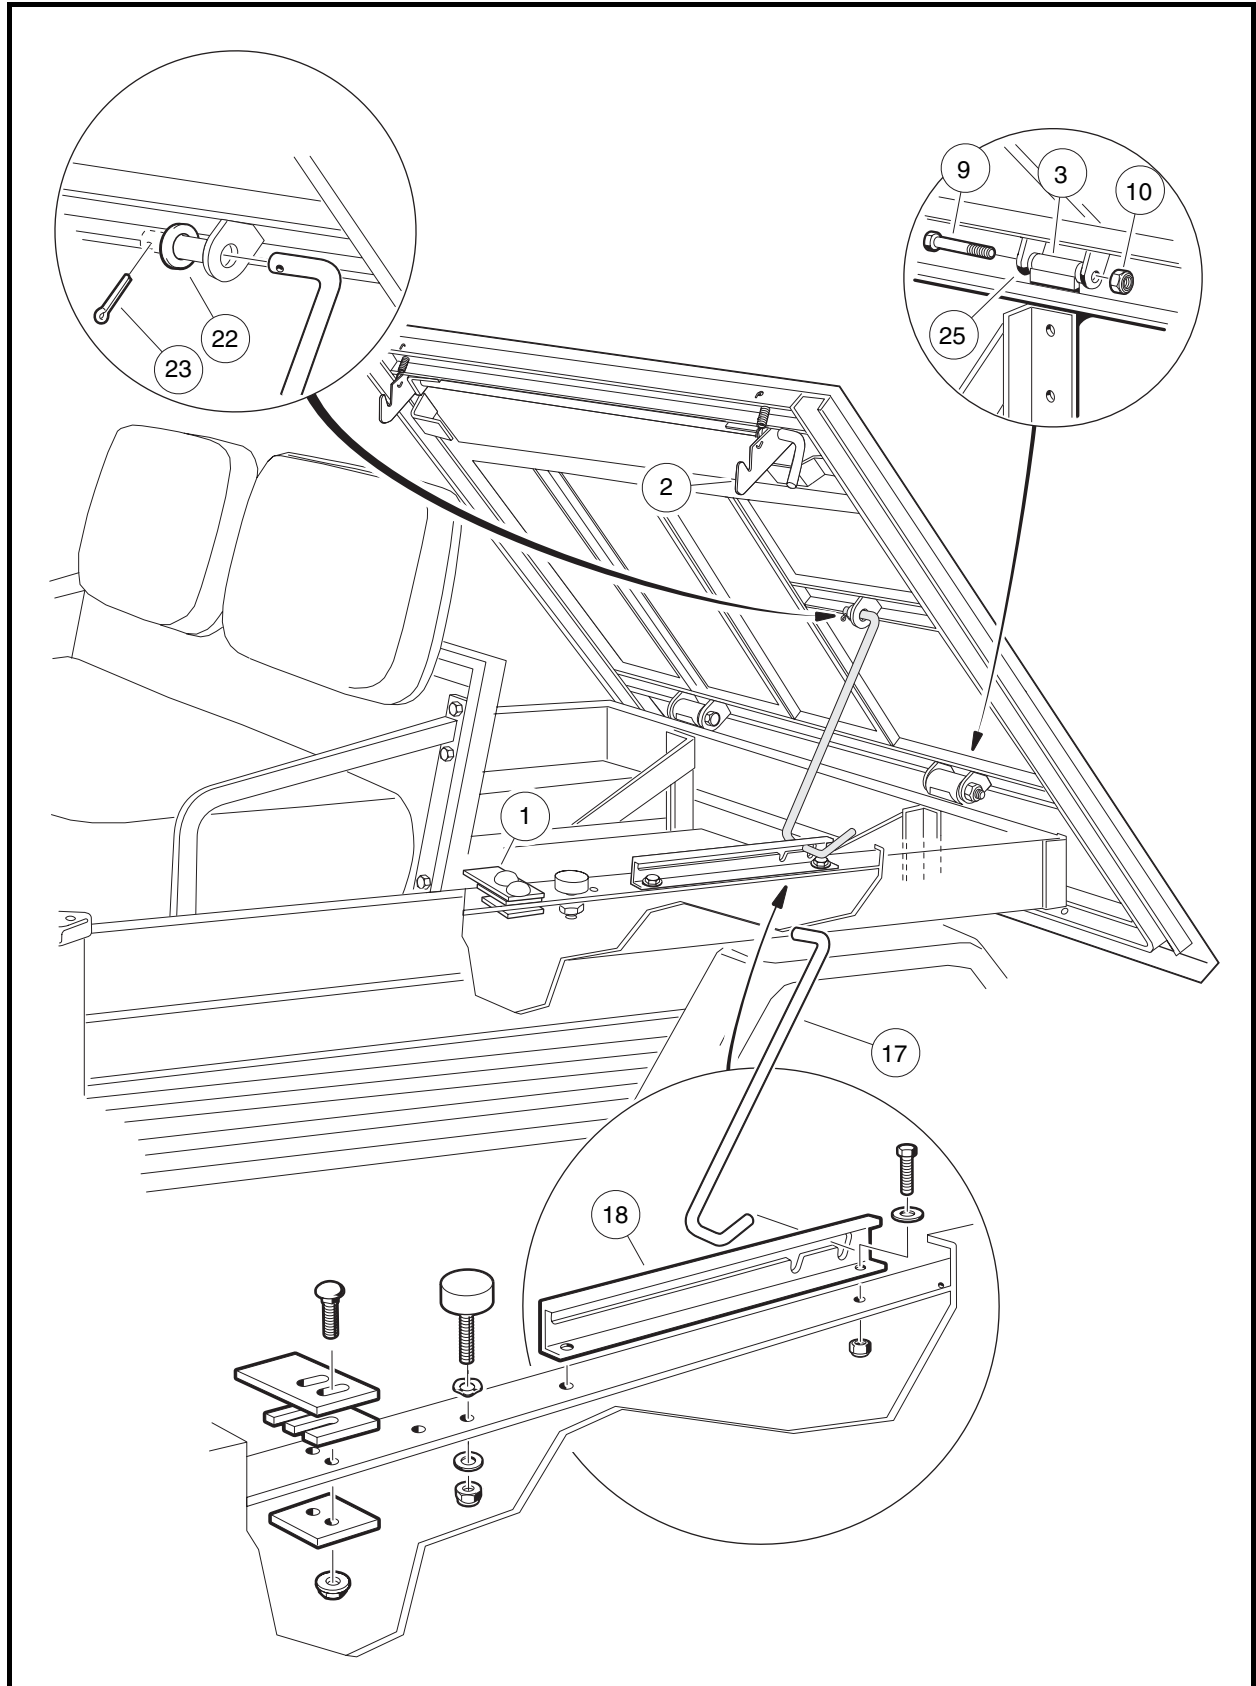

Figure 4-2 Tilt Bed – Turf 1, 2, Carryall 1, 2, and 2 Plus
1. **Turf 2, Carryall 2, and 2 Plus only:** Raise bed and secure prop rod (17) in prop rod track (18). Hold bed securely in an upright position. Remove cotter pin (23) and flat washer (22) from top end of prop rod where prop rod attaches to bed. Remove prop rod (17) from bed and place prop rod between prop rod track (18) and rear body panel. Lower bed onto vehicle frame (**Figure 4-2, Page 4-6**).
2. Remove two lock nuts (10) from left and right hinge assemblies (3 and 25).
3. Apply slight upward pressure (by hand) on the rear of the bed to relieve pressure on the hinges, and remove the hinge bolts (9) from the hinge assemblies.
4. Raise rear edge of bed approximately 6 inches (15.2 cm) and pull bed assembly toward rear of vehicle approximately 3 inches (7.6 cm) to release bed latch assembly (2) from latch plate (1).
1. Hold bed at a slight angle (front of bed lower than rear of bed) to vehicle and place front edge of bed onto vehicle frame. Bed latches (5) should engage with latch plates (1) (**Figure 4-2, Page 4-6**).
2. Lower edge of bed onto vehicle and align hinge brackets (3) with bed hinge (25).
3. Start the bolts (9) into left and right hinge assemblies (3 and 25). It may be necessary to use an alignment tool to align holes in hinge bracket with steel bushing in hinge assembly.
5. Install a nylon lock nut (10) on each bolt (9) and tighten to 15 ft-lb (21 N-m).
6. **Turf 2, Carryall 2, and 2 Plus only:** Lift bed and place the prop rod (17) in bed mounting hole. Install a 3/8-inch flat washer (22) and a new cotter pin (23) on prop rod (**Figure 4-2, Page 4-6**).